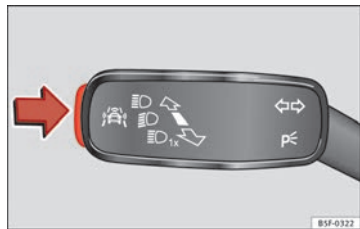

Fig. 44 On the turn signal and main beam headlight lever: button for the driving assistance systems
- Briefly press the button ⇒ Fig. 44 in the direction of the arrow to open the menu **Assist systems**.